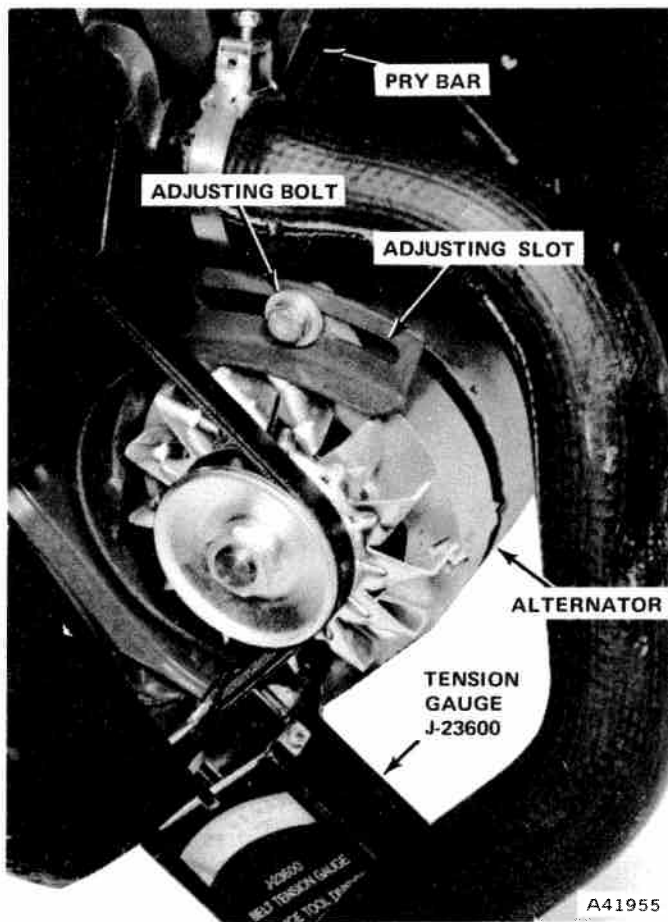

Fig. 2-9 Adjusting Fan Drive Belt - Six-Cylinder
- (1) Loosen alternator pivoting mount bolt.
- (2) Loosen alternator adjusting bolt.
- (3) Adjust belt using pry bar or 1/2-inch square drive bar. Snug adjusting bolt (fig. 2-9 and 2-10).